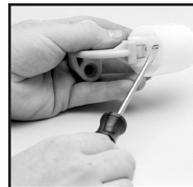

Figure 4.
4. To remove connecting rods from the piston and lever, insert a flat tip screwdriver between the two connecting rods and twist. Figure 4.